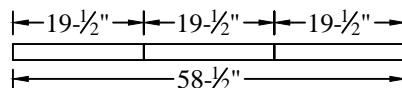

Figure 9: Filler strip assembly.
- 1. Arrange** the three (3) 12ga. x 4-1/4" x 19-1/2" T-330 filler strips end to end (Figure 9).